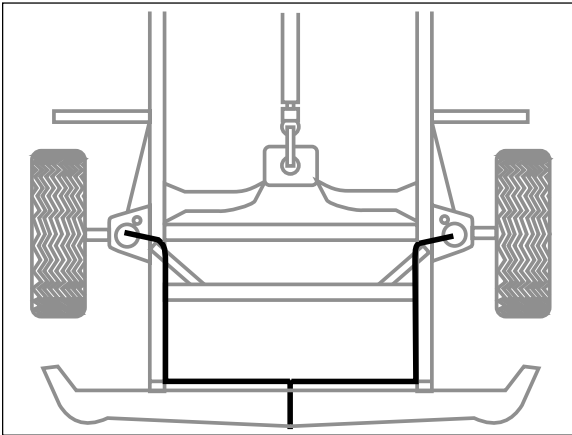

Figure 4
10. Push the remaining air line over the last fitting on tee and route along frame to desired inflation valve location (Figure 4). Attach with plastic straps or wire.